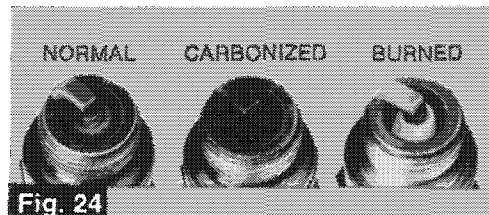

Fig. 24
**IMPORTANT: Always carry spare Spark Plug(s) and Drive Belt. Check condition of Spark Plug(s) frequently (See Fig. 24) and look for signs of fouled or defective plug. Next to 'Out of Fuel', worn Spark Plugs are the single largest cause of trouble on the trail.**
3 — Spark plug(s)	Check for fouled or defective spark plug(s). (See Fig 24). First complete item 2, above. Then disconnect spark plug wire, unscrew plug and remove from cylinder head. Reconnect wire and ground exposed plug to engine head, being careful to hold away from spark plug hole. Follow engine starting procedure and check for spark. If no sparks appear, replace spark plug.